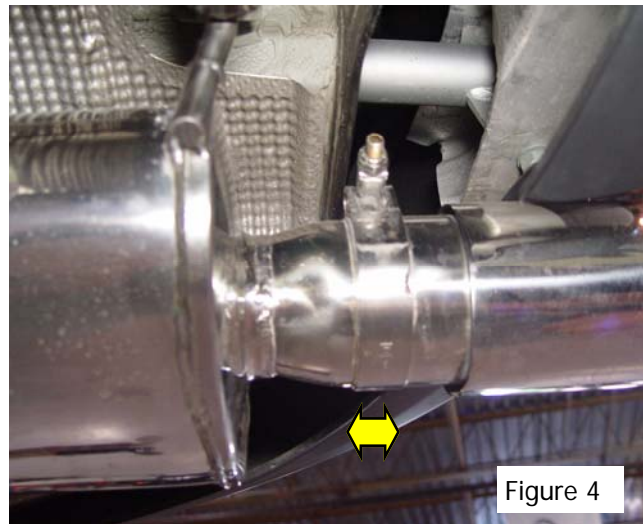

Figure 4
**When adjusting the length of the tips, make sure that the tip and tailpipe of the muffler overlap at least the width of the clamp** (arrow in Figure 4).